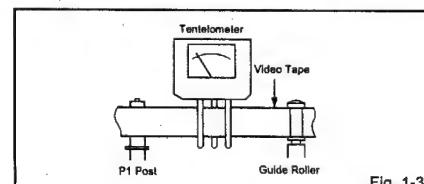

Fig. 1-3
2. Install the telotometer as shown in Fig. 1-3. Confirm that the meter indicates  $20 \pm 2$ gf in the beginning of playback.